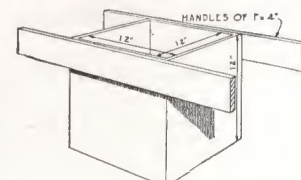

FIGURE 4
- (f) Measuring and mixing should be done carefully. Do not measure it by the shovelful. A simple way of measuring is to make a box $12'' \times 12'' \times 12''$, without a bottom but with handles (see Figure 4). This box will hold a cubic foot. Use it as a measure for "one part." A sack of cement contains about one cubic foot.